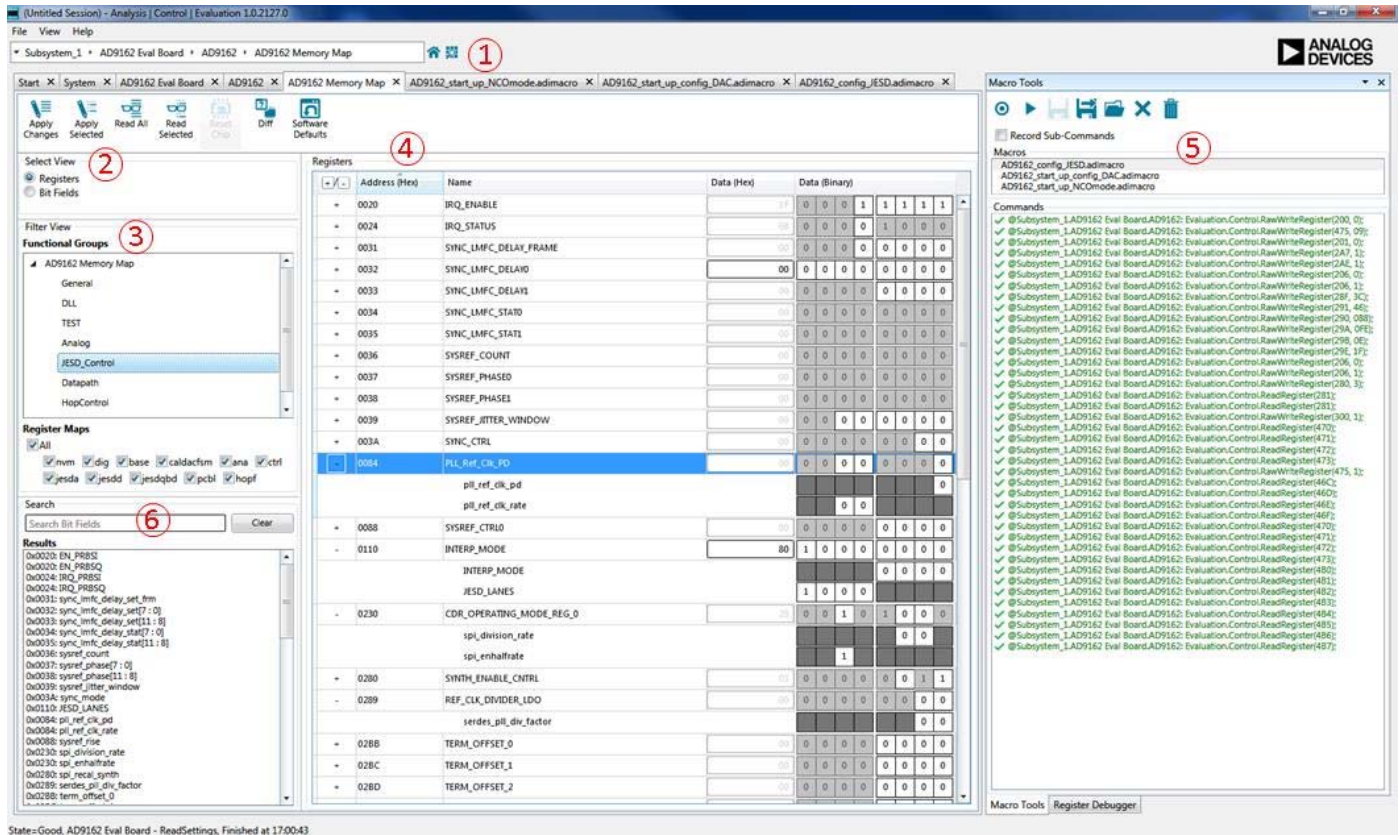

Figure 23. JESD_Control Functional Group view of AD9162 in ACE
A picture of the ACE software screen is shown in Figure 23. In this view, the tabs for the ADS7+AD9162 eval boards, the AD9162-FMC(B)-EBZ eval board, the AD9162 device, and the AD9162 Memory Map are shown near the red (1) in a circle, along with three tabs for each of the start-up scripts used in this Quick Start guide. The user can click on each tab to navigate to the various windows.
At the red (3) is the Functional Group view. Because the AD9162 has a large register map, the Functional Group view is useful to reduce the number of registers to view at a time. For example, Figure 23 shows the "JESD_Control" Functional Group, which is useful because the four needed registers to configure the JESD link are all in that group. By selecting this group and expanding the registers, the user can quickly find the registers and update their values. **The "Apply Selected" or "Apply Changes" button, above the red (2), MUST be clicked after a register is changed to commit the change and program it to the device.**